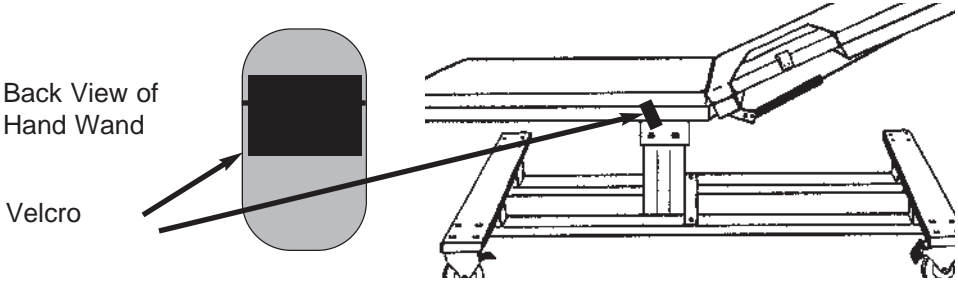

Figure 9
The hand wand attaches to the bed in one of the two (2) following ways: Beds without safety rails - The hand wand has a Velcro strip on the back and the bed has Velcro on the side. (See Figure 9)